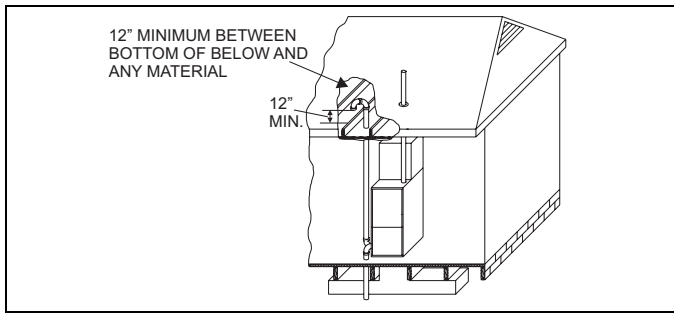

FIGURE 28: Attic Combustion Air Termination
3. **VENTILATED COMBUSTION AIR:** Combustion air is supplied through a PVC or ABS pipe that is connected to the PVC coupling attached to the burner box and is terminated in a ventilated attic or crawl space. The combustion air and the vent pipes are not terminated in the same atmospheric zone. Refer to Figure 28 for crawl space and attic termination. Only the combustion air intake may terminate in the attic. The vent must terminate outside.
Refer to Figure 28 for required attic termination for the combustion air intake pipe. For attic termination, use two 90 elbows with the open end in a downward position. Be sure to maintain 12" (30.5 cm) clearance above any insulation, flooring or other material.